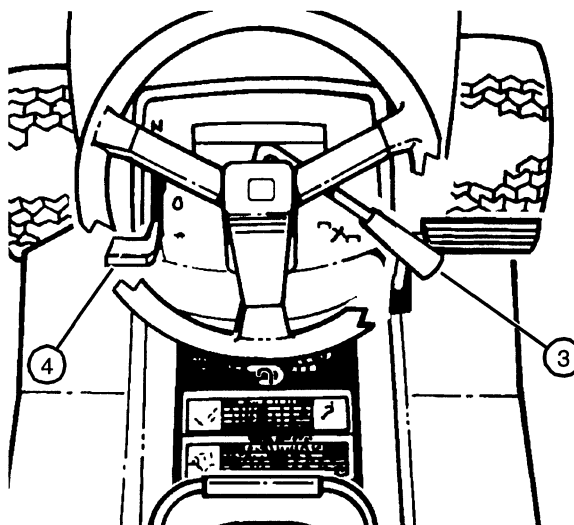

FIG. 20
- Move throttle lever (4) to fast detent position. (See Fig. 20)
- Push PTO drive lever (3) forward to start blades.